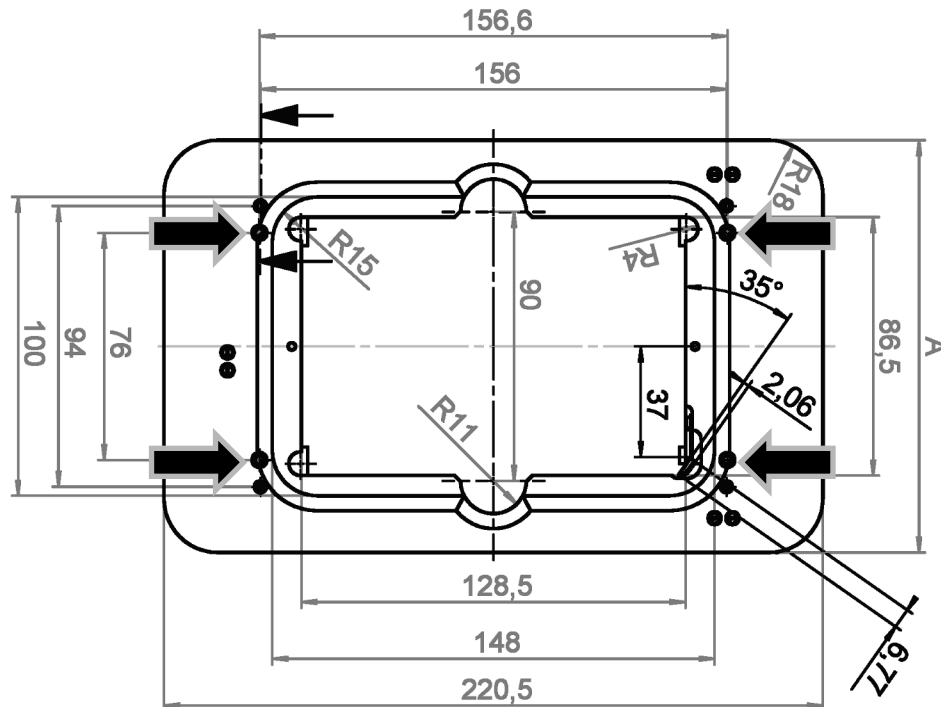

Figure 4: The mounting holes with a diameter of 3 mm must be used for mounting the P-737 onto a base.
- Mount the P-737 onto the base using four suitable M2.5 socket head screws and the four holes marked by arrows, see Figure 4.